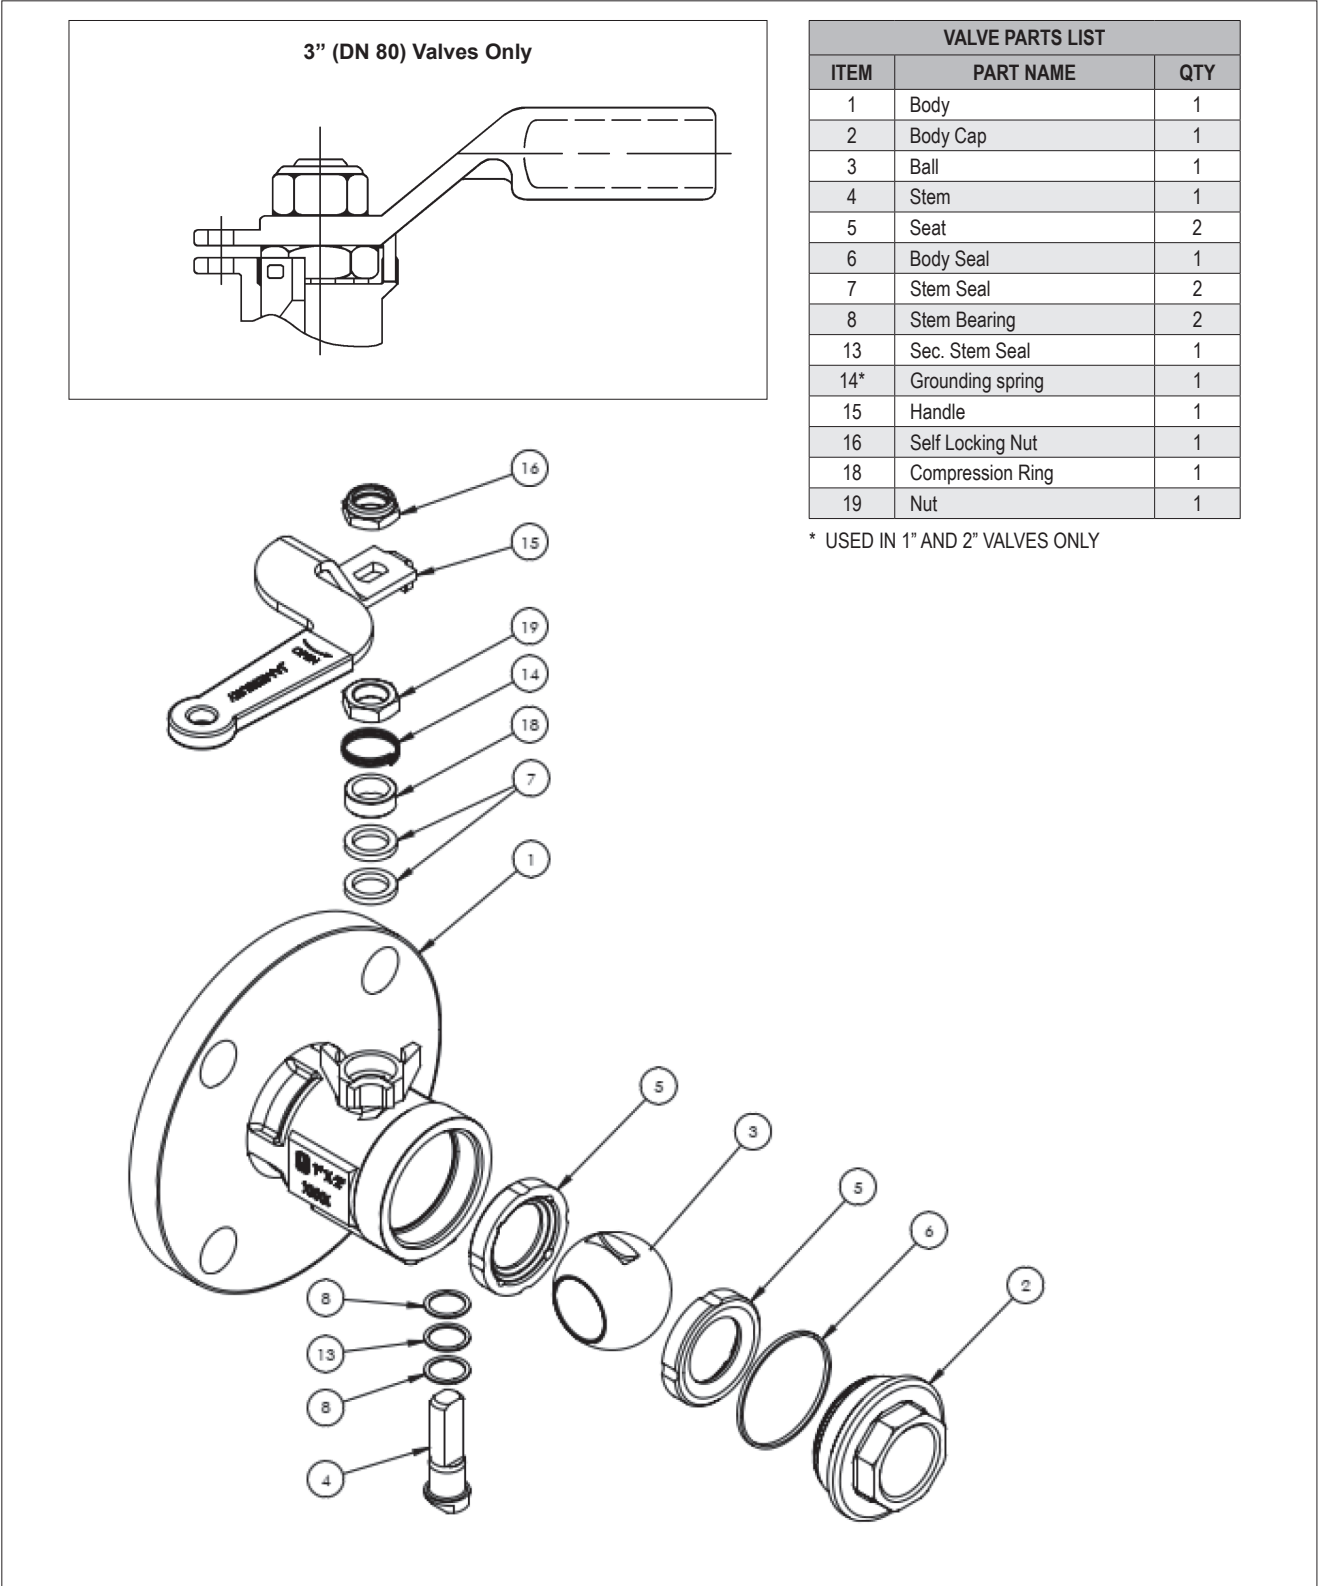

Figure 5
Good operating procedure requires periodic observation to ensure that the valve is functioning well. The frequency of observation will depend on the application. Routine maintenance consists of tightening the lower stem nut (16) 1/4 turn periodically to compensate for wear caused by the stem turning against the seal. Loosen the upper stem nut (16) on top of the handle (15) before tightening the lower stem nut. Retighten the upper stem nut after tightening the lower stem nut. (See **Figure 5**)
- From **Figure 5**, the ballooned part number, part name and quantity required.